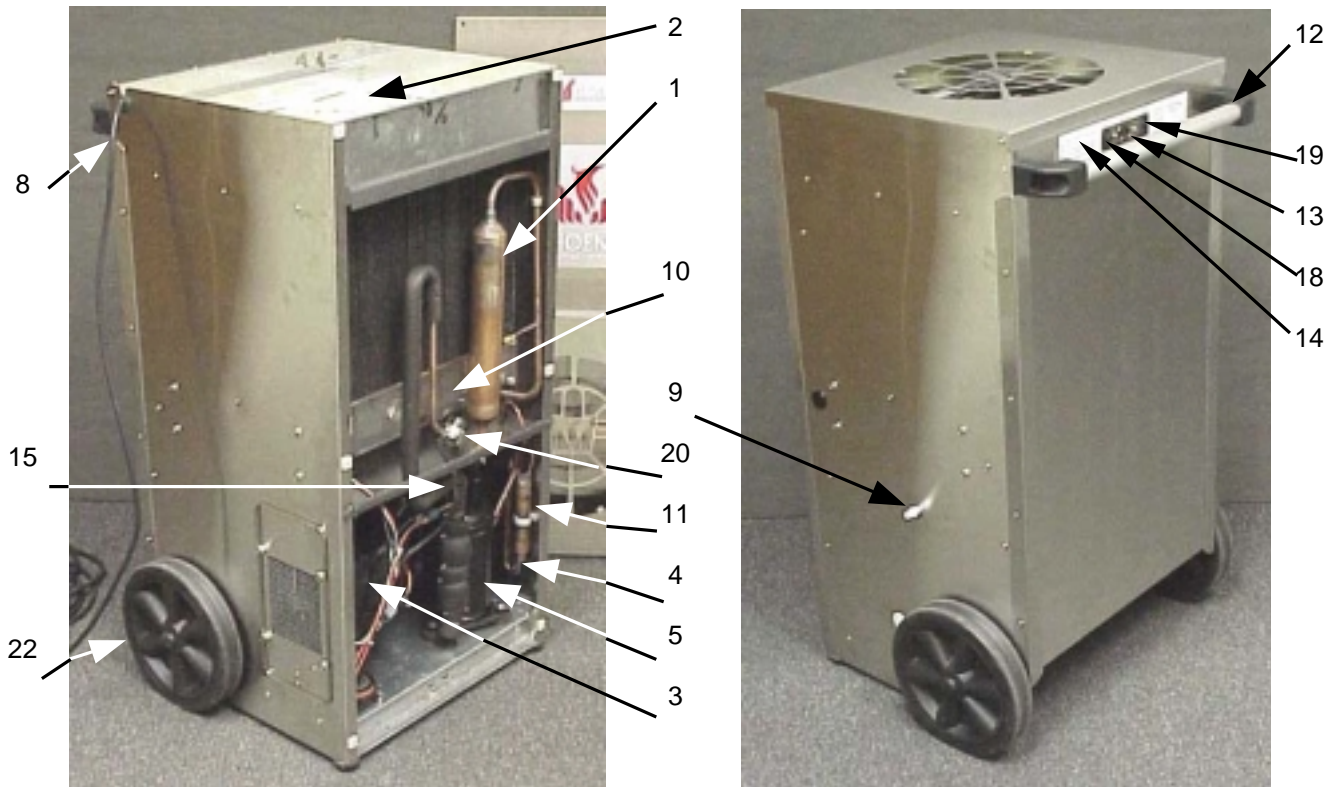

Figure 4
- Push the plastic plug on the right side (see Fig. 4) out from inside the unit.